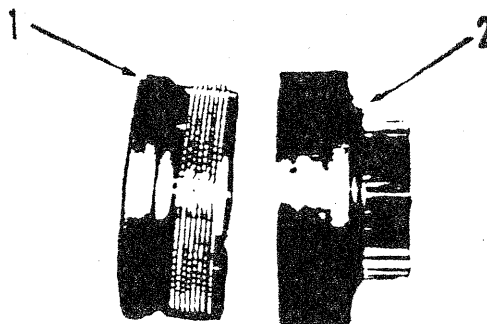

Figure 21
THE HYDRAULIC CLUTCH MUST BE SERVICED IN A CLEAN AREA. The clutch pack contains two parts: The clutch (1), Figure 21, contain friction discs and separator plates, and the clutch spider (2). The two parts are not fastened together and may be separated by sliding them apart as shown. The clutch is held together by six flat head capscrews that are locked on the back side by six allen head setscrews.